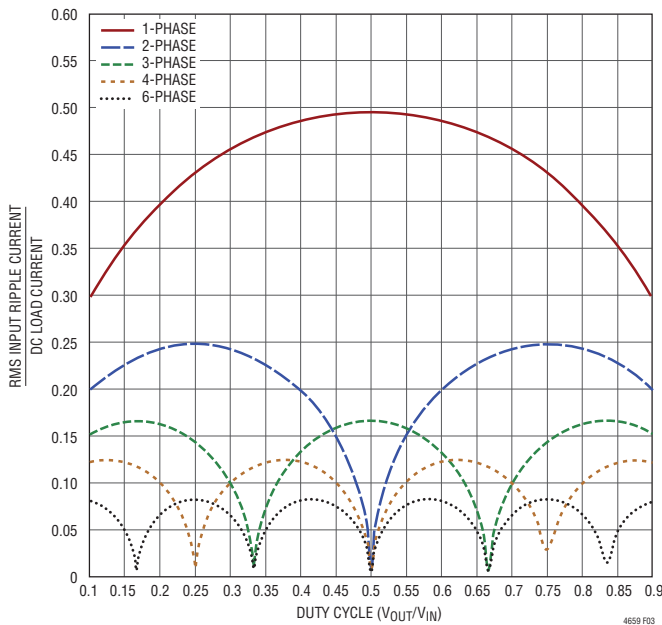

**Figure 2. Phase Programming**
2. The phasing of a subordinate phase relative to the main phase is programmed with a resistor divider on the FREQ pin (see Figure 2). Use of 1% resistors is recommended. See Table 4 for more information.